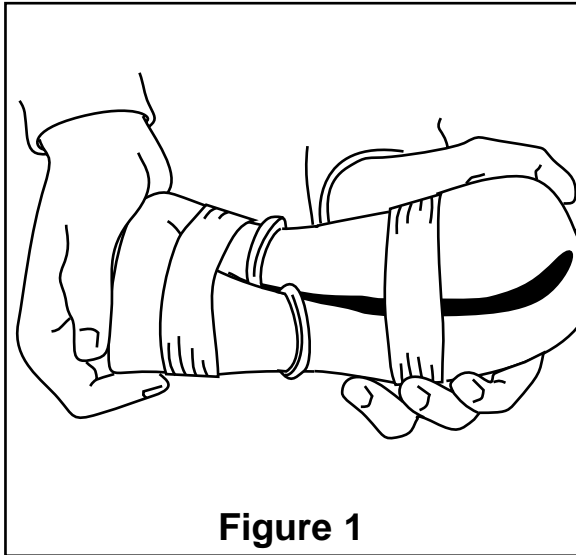

Figure 1
3. Remove plastic cap from barbed stem on end of air cylinder. Evacuate air from cylinder. Replace cap on stem to hold flat shape. Roll cylinder into a "hot dog bun" shape and retain shape by using string, tape or wire (Figure 1).
If the vehicle's headlights are shining into the trees or the vehicle is leaning to one side, then it is not level (fig. 1). Raise the air pressure to correct either of these problems and level the vehicle.